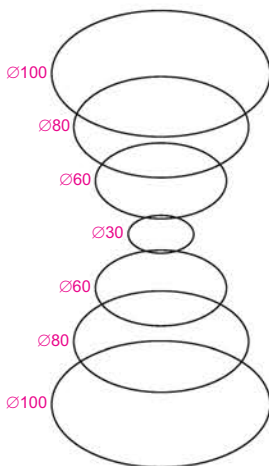

Fig. 9.37 Example Loft – the cross sections
1. In the **Top** view, construct the seven circles shown in Fig. 9.37 at vertical distances of 30 units apart.